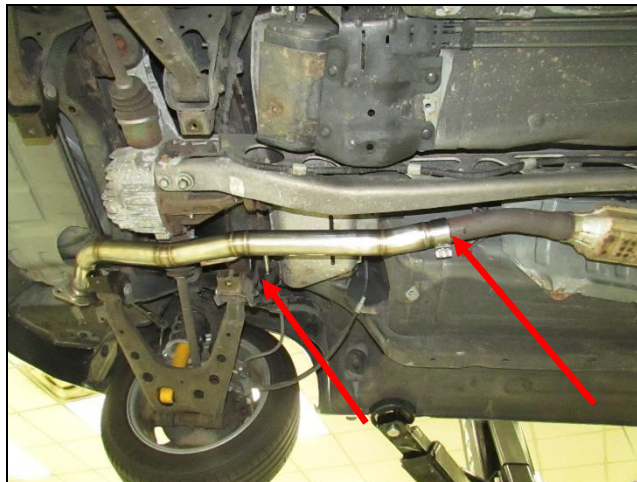

Figure 7
1. Slide on (x1) supplied 2" band clamp, slide on the Blackheart pipe, and slide the (x1) hanger in the OE rubber isolator (**Figure 7**).